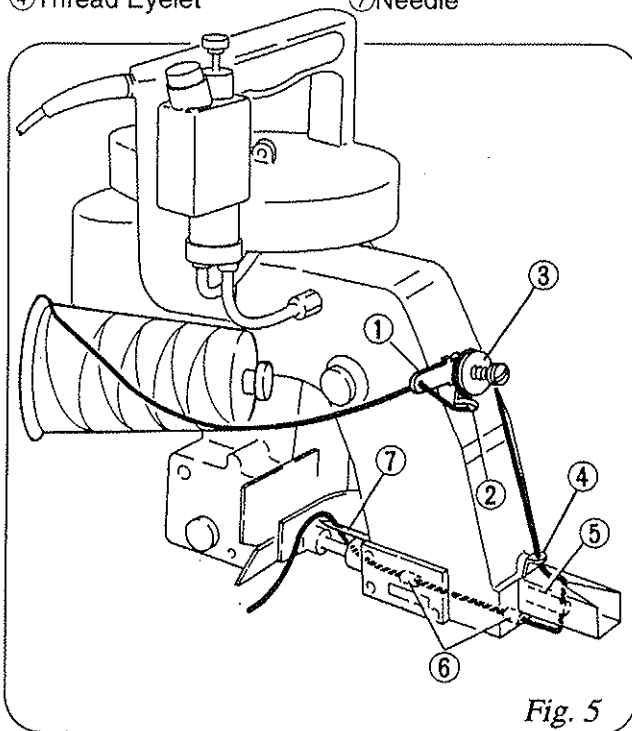

Fig. 5
- Confirm that the machine has been threaded as per Fig.5 in the manual.
## 3. Threading (Fig.5)
The machine is delivered being threaded to show you proper threading of the machine, which is shown in Fig.5, for identification. Follow the guide numbers 1 to 7 of Fig.5.